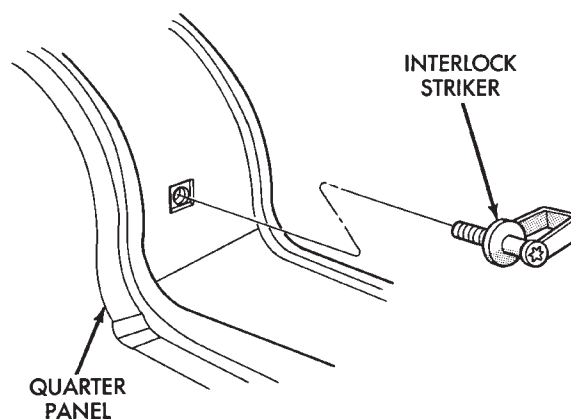

Fig. 45 Rear Door Interlock Striker
- (1) Release door latch and open rear door.
- (2) Mark outline of interlock striker on C-pillar to aid installation.
- (3) Remove interlock striker from vehicle (Fig. 45).